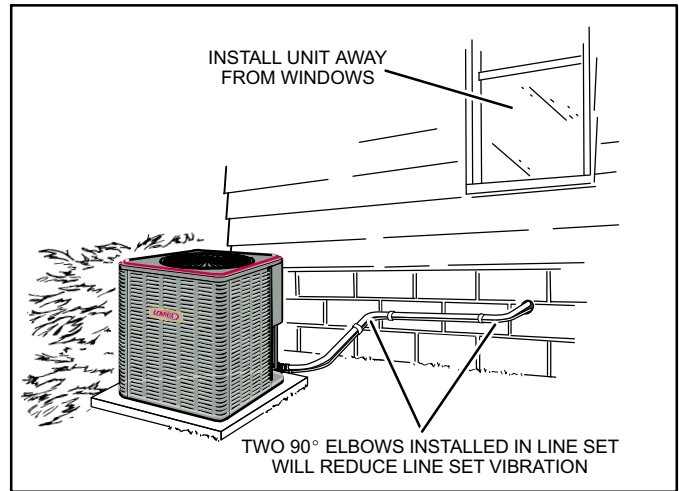

Figure 3. Outside Unit Placement
- When possible, do not install the unit directly outside a window. Glass has a very high level of sound transmission. For proper placement of unit in relation to a window see the provided illustration in Figure 3.